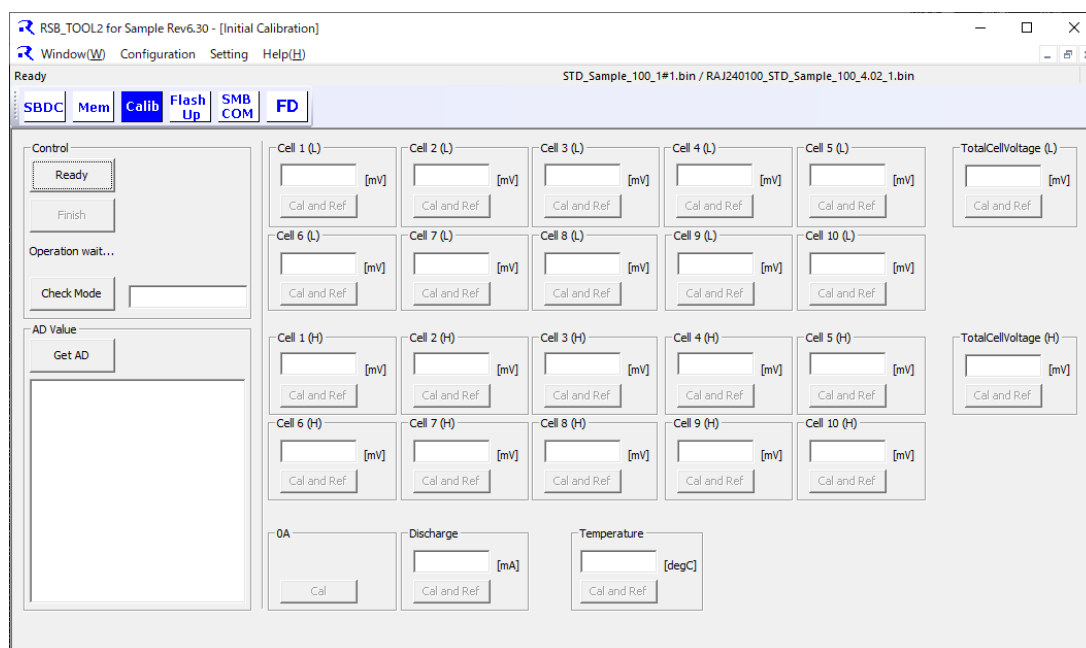
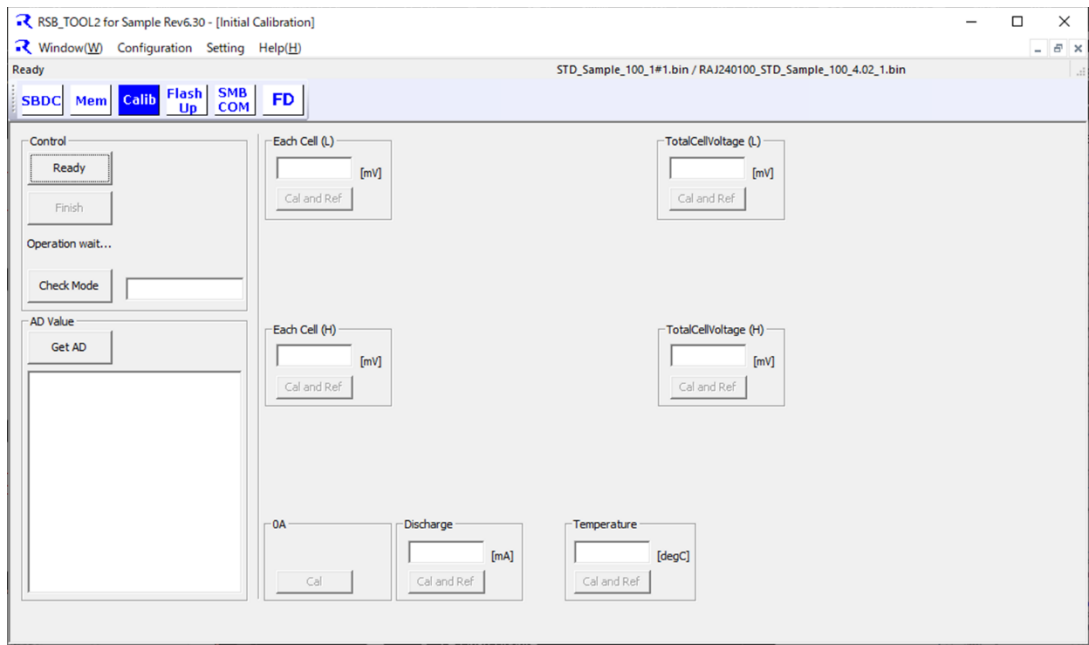

Figure 25 Initial Calibration (Individual Cell option)
Figure 26 Initial Calibration (Simplified block option)
- 1) Individual cell calibration (Figure 25). Each cell to be calibrated individually (Cell1, Cell2, ...etc)
- 2) Simplified block calibration (Figure 26). Cell is calibrated in total (Cell1-Cell10 as total)
Figure 25 and Figure 26 show an example RSB_TOOL2 using “RAJ240090 or RAJ240100” configuration setting .